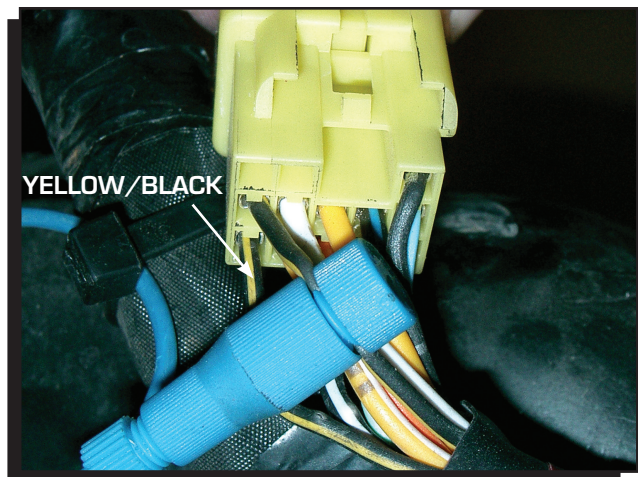

Figure 15 Splicing into the Clutch Switch.
6. Locate the yellow 12-pin connector under the left side of the dash. Tap the OEM Yellow/Black clutch wire with the MSD Blue wire (Figure 15).